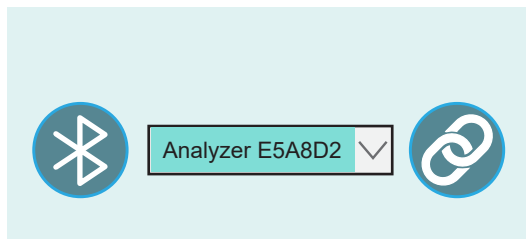

Figure 37. Drop Down Menu
2. Tap the correct analyzer from the drop-down menu and tap the connect button. See Figure 37.